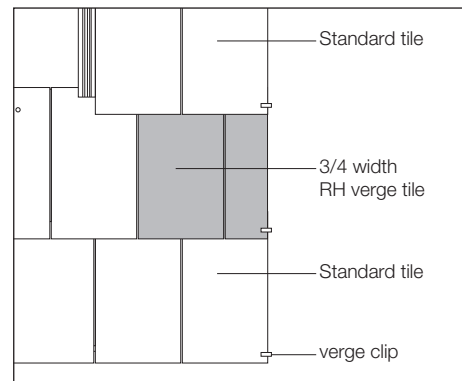

Fig. 24 – Typical bedded verge (right hand)
- Verges should be formed using standard tiles with left hand or right hand 3/4 width verge tiles in alternate courses. Standard tiles on left hand verges will require the sidelock to be removed (Fig. 24).